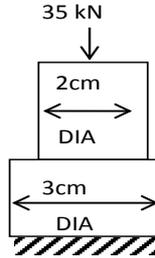

Fig. 1.6
7. A stepped bar shown in fig. 1.6 is subjected to an axially applied compressive load of 35 kN Find the maximum and minimum stresses produced.